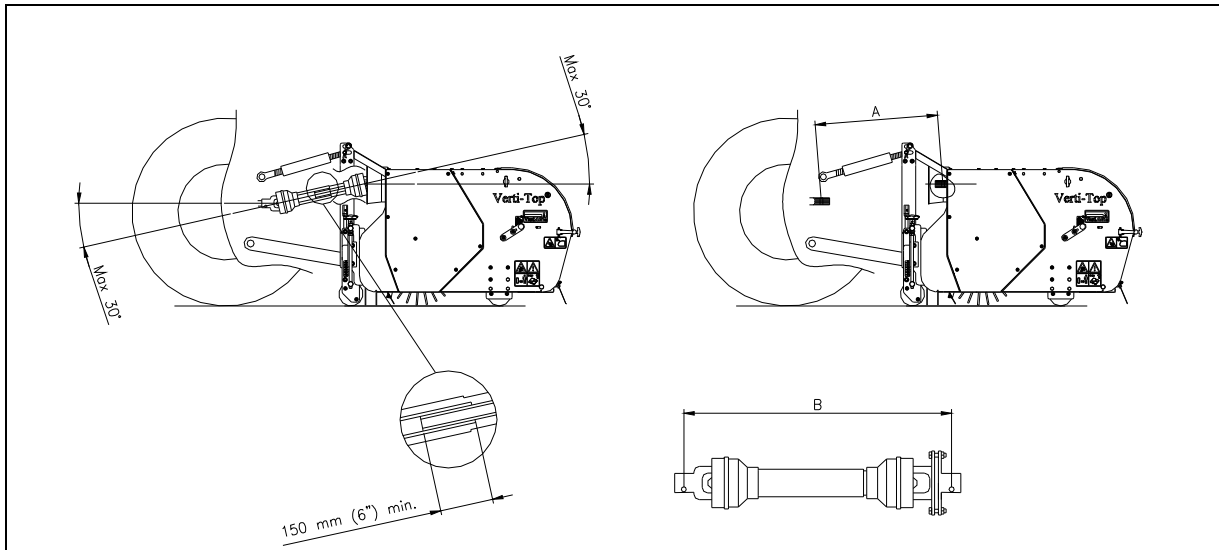

Figure 10
4.1 LENGTH OF THE PTO (Figure 10)